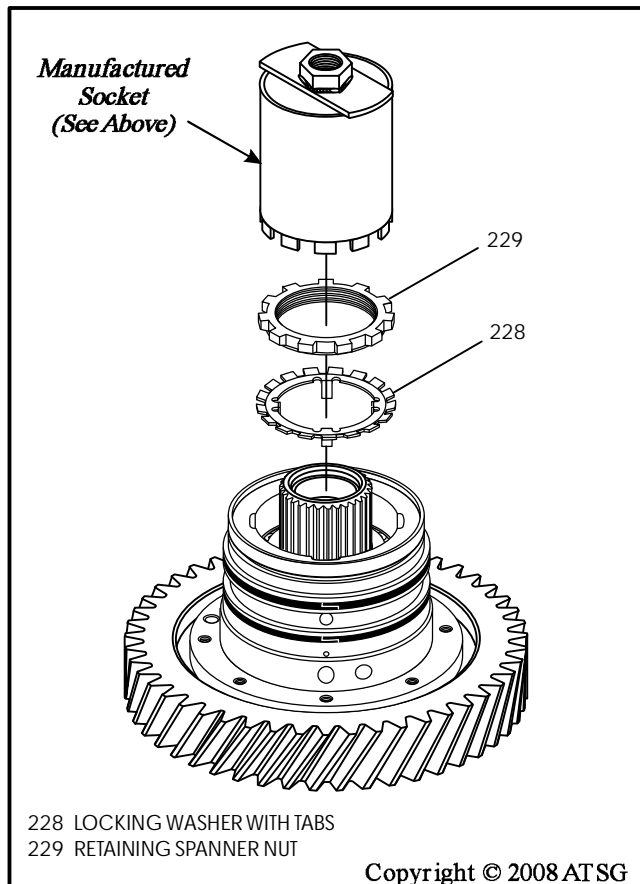

Figure 74
22. Install the locking washer with tabs and the spanner nut, as shown in Figure 74.
**Note: The socket needed to torque spanner nut, shown in Figure 74, must be made as described under "Special Tool Requirement".**
In order to tighten the "Spanner" nut to the proper torque specification on Transfer Gear "A" assembly, it was necessary to make a socket. First bend down the locking tab on the locking washer for the nut and loosen the nut using a punch. Purchase a short piece of 1-3/4" exhaust pipe and using the nut as a template, mark the end of the pipe. Very carefully cut and notch the pipe to match the nut, as shown in Figure 74. Weld a short piece of metal to the opposite end of the pipe, with a large nut welded to it, as shown in Figure 74. The overall length of the new socket with nut is approximately 4-1/2 inches.